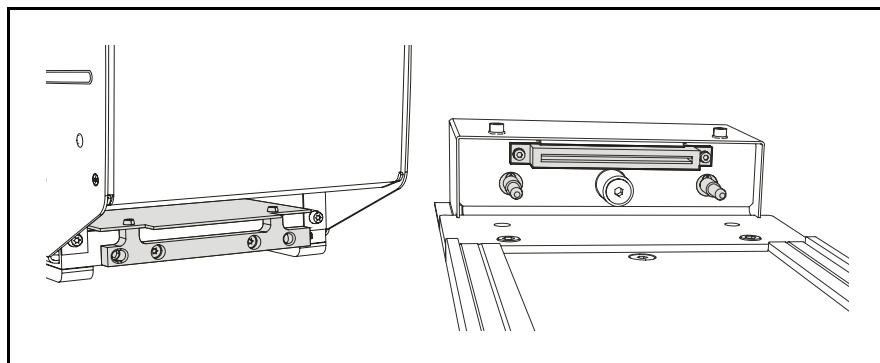

Figure 12-1. Magazine connectors.
- Remove any components and component tape from the magazine connectors (Figure 12-1) by using a vacuum cleaner or brush.